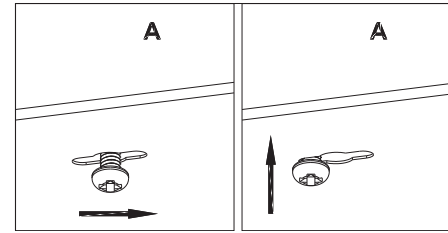

Figure 11
4. Hide cables with wire nuts in the junction box. Guide the heads of the four wood screws into the keyhole slots and slide the lamp base (a) in the direction such that the wood screw heads rest over the narrow part of the keyhole slot. Ensure that the fixture is supported and tighten the four wood screws until the fixture is secured to the mounting surface. (Figure 11)